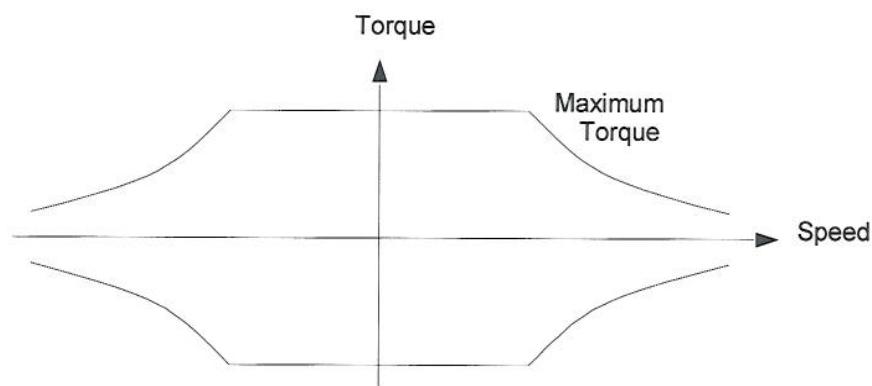

Figure 6 A typical torque speed diagram of an electrical drive system
- (c) Justify the shape of the torque-speed diagram in figure 6 with respect to a dc machine. Calculate the principal points on the diagram for a system with the following properties: